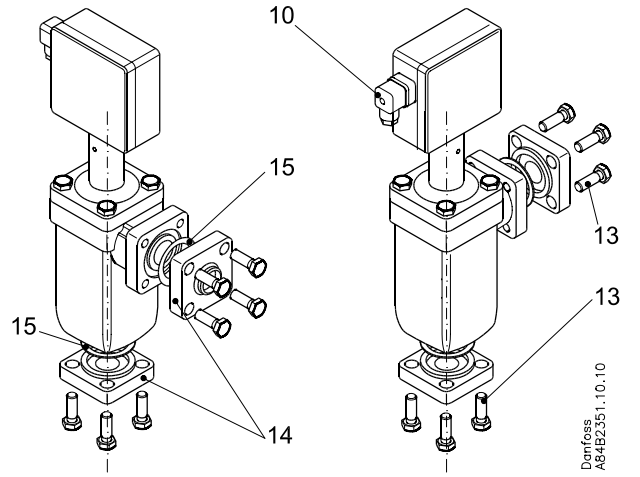

Fig. 2
AKS 38 is supplied complete with flanges (fig 2, pos. 14).
Replacing the flange gaskets (fig. 2, pos. 15)
- Unscrew the 4 × M12x35 stainless steel bolts on the side flange (fig. 2, pos. 13).
- Unscrew the 4 × M12x35 stainless steel bolts on the bottom flange (fig. 2, pos. 13).
- Remove both gaskets (fig. 2, pos. 14).